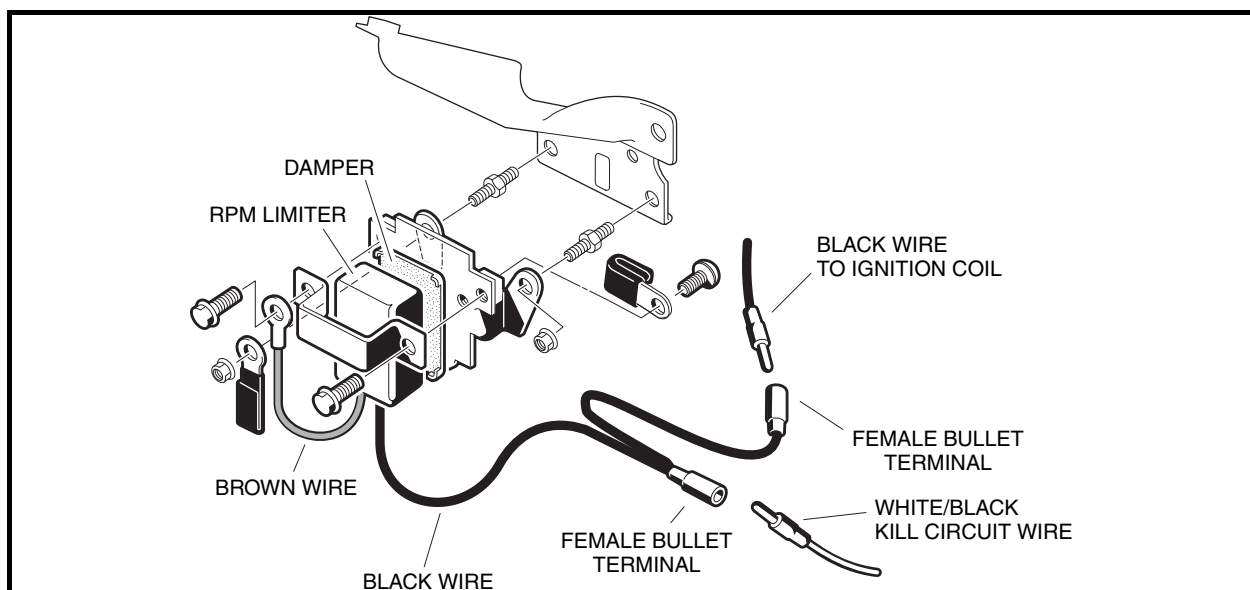

Figure 12-38 RPM Limiter Assembly
3. Disconnect the white/black wire from the black wire at the bullet connector located near the RPM limiter (**Figure 12-38, Page 12-33**).
5. Remove the flange head bolts from the RPM limiter band and remove the RPM limiter and damper (**Figure 12-38, Page 12-33**).
2. Place the RPM limiter with damper on the front of the RPM limiter mounting bracket (**Figure 12-38, Page 12-33**).